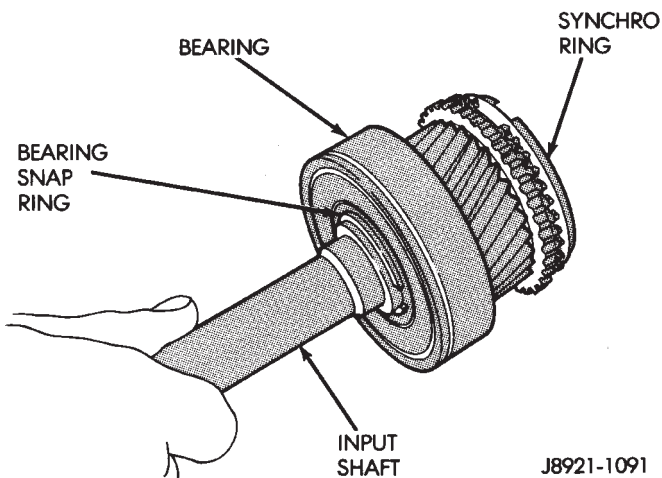

Fig. 61 Input Shaft Components
- (9) Remove synchro ring from input shaft (Fig. 61).
(10) Remove bearing snap ring and press bearing off input shaft (Fig. 61).